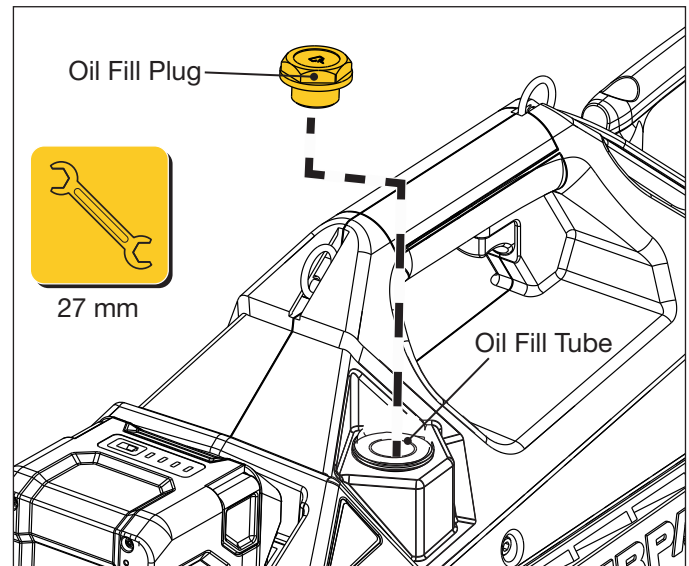

Figure 12: Oil Fill Location
3. Turn off the pump power switch (O).
5. Remove the oil fill plug from the fill opening. Use a 27 mm wrench. See Figure 12.
4. Remove the oil fill plug from the fill opening. Use a 27 mm wrench. See Figure 12.